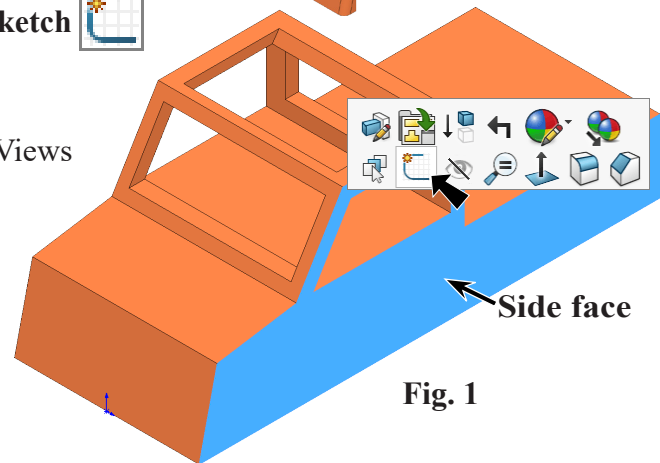
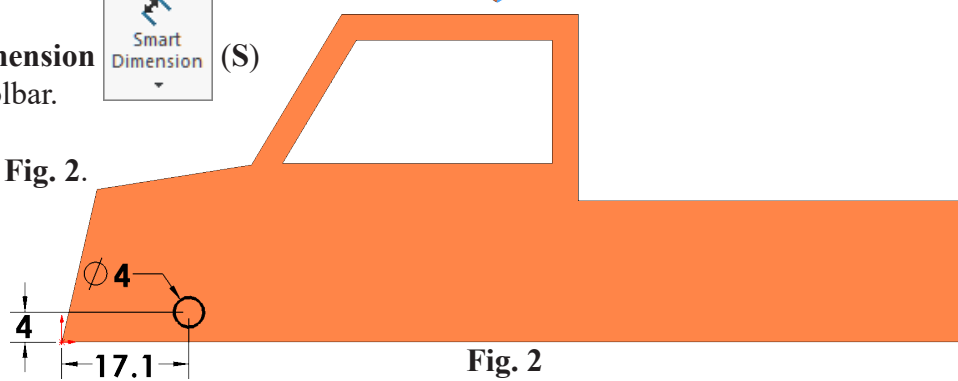

Fig. 1
Fig. 2
Step 2. Click the **side face of Truck** and click **Sketch** on the context toolbar, **Fig. 1**.
Step 4. Click **Circle** (S) on the Sketch toolbar.
Step 5. Sketch circle for front axle, **Fig. 2**.
Step 6. Click **Smart Dimension** (S) on the Sketch toolbar.
Step 7. Add dimensions, **Fig. 2**.